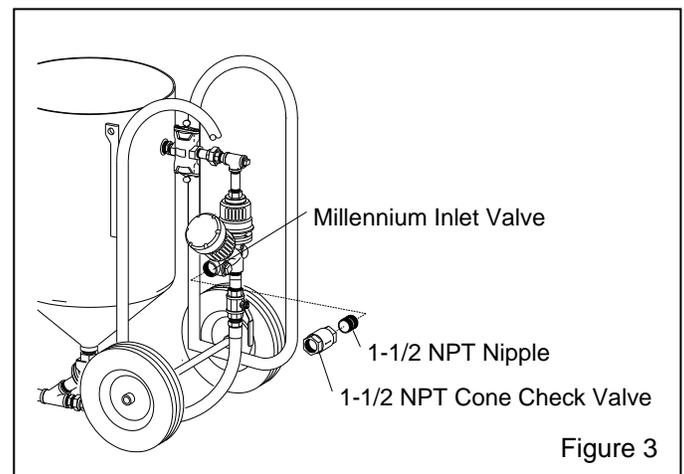

Figure 3
2.2.1 Where multiple blast machines are operating from a single air source, install a check valve at the air supply on each machine. The illustration in Figure 3 is the easiest method to install a cone check valve on a blast machine.